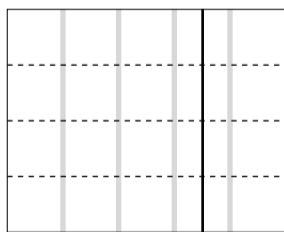

Fig 2f - Horizontal Dovetail Tracks
- 2.6 Measure the sled base front to back in 4" increments to lay out the horizontal Dovetail Tracks [Fig 2f]. The ZeroPlay® mounting holes are dimensioned out to work with this spacing.